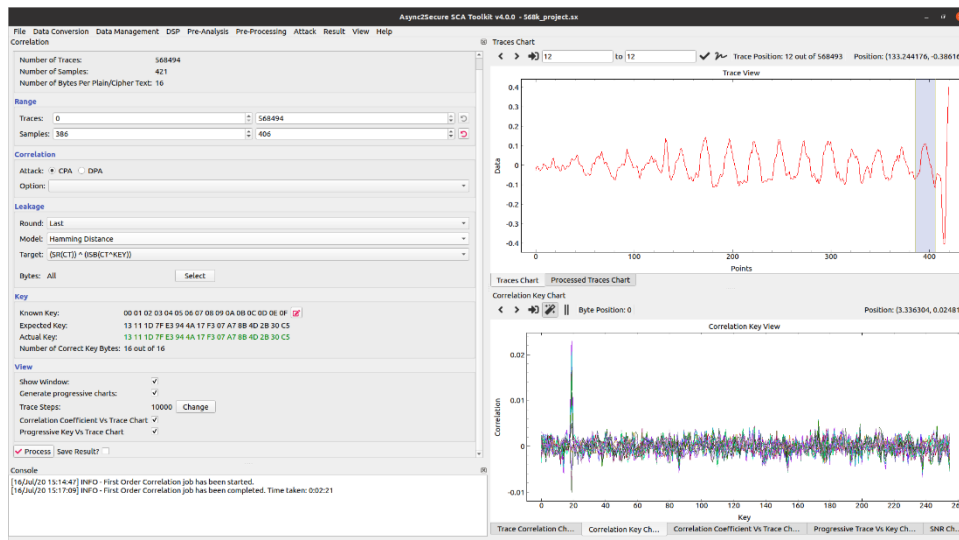

Figure 15: Attacking and analysing the collected traces
- Once the project file is loaded, go to 'Attack' > 'Correlation' from the menu. The "Correlation" window is displayed as shown in Figure 15.
5. Analysis Phase – to check whether the key can be retrieved successfully or not, as shown in Figure 15.